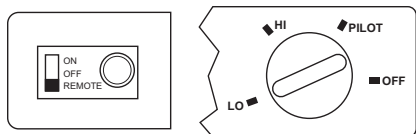

Figure 27 - Setting Selector Switch and Control Knob for Remote Operation
- Wait one minute and switch selector switch to the ON position to light burners (see Figure 27).
After lighting, let pilot flame burn for about one minute. Turn control knob to HI or LO. Slide selector switch to REMOTE position (see Figure 27).